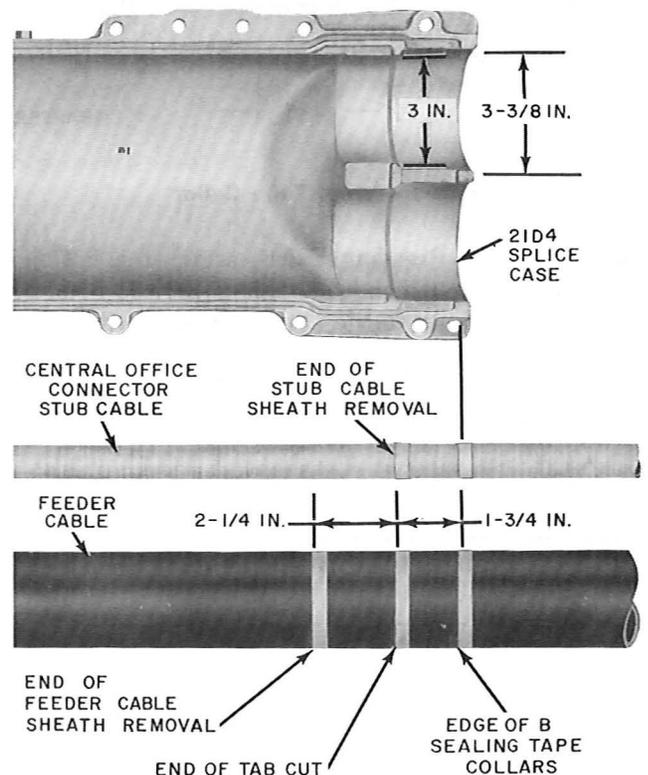

Fig. 4—Marking Cables
4.04 Measure another 2-1/4 inches toward the center of the splice and mark the feeder cable with a paper tape marker to indicate the extent of removing the sheath (Fig. 4).
7.01 Cut a ring around the poly-sheath at the innermost paper tape marker (Fig. 4). Slit the sheath from this cut to the end of the sheath. Remove the poly-sheath.